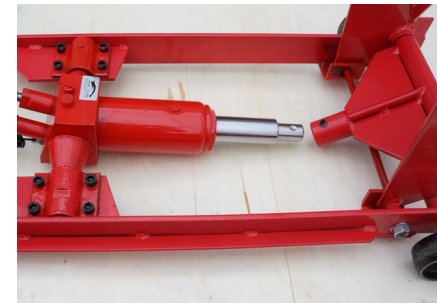

Fig. 4
4. Turn the piston rod of Hydraulic Pump (39) to make the concave hole on the piston rod aligned with the screw hole on Pump Connector (38), then insert the piston rod into Pump Connector and tighten locking screw (37) (Fig. 4,5)